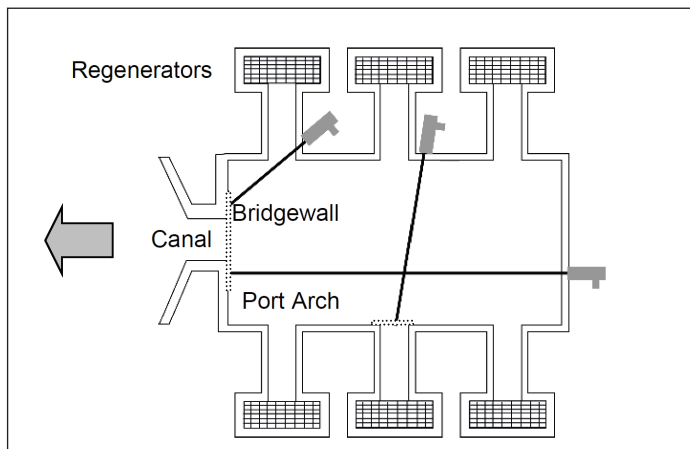

Fig. 2: Measuring Points inside the Melt Furnace
- the Bridgewall (Fig. 2),
- the Port Arch (Fig. 2 and 3).